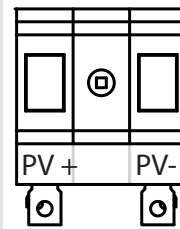
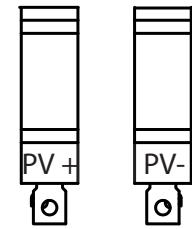

Figure 52: Disconnect the PV cables
Figure 53: Disconnect the PV cables
- 2. Detach the DC cables from the PV+ and PV- terminals (Figure 52 (Basic + M version) and Figure 53 (S version)).